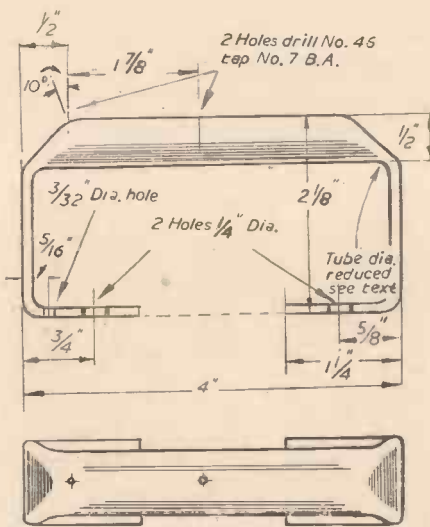
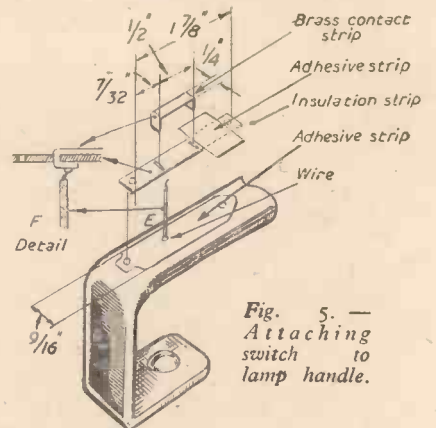

Fig. 3.—The handle.
Fig. 5.—Attaching to switch lamp handle.
This is shown in Fig. 3 and is bent cold from 16 s.w.g. mild steel tubing. It is fixed to lamp case with two bolts, one of which is shown in Fig. 5. The lower portion of the handle, which is attached to the case, is pressed flat by means of a vice. It is also necessary to place the grip portion of the handle in the vice and squeeze until a slight flat is produced on the top and underside. This not only improves the grip by widening but also provides a partly flat surface for
There is a third hole which, for clarity, is not shown in Fig. 3. This hole provides a passage through the handle for the wire (E) shown in Fig. 5. This wire comes from one side of the bulb and is finally soldered to